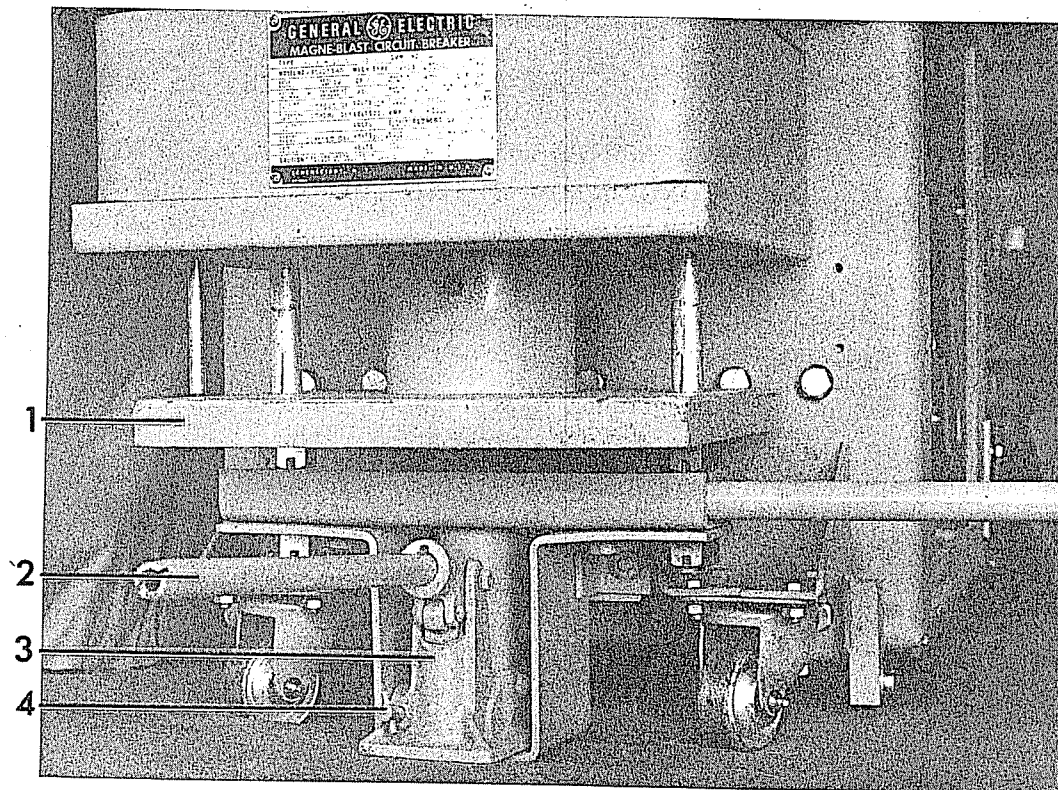

Figure 1 (8020882) Method of Mounting Maintenance Operating Device
2. Operate the breaker manually using the maintenance closing device provided with the breaker. Mount the device as shown in Figure 1 and turn the release valve (4) firmly to the right. To close the breaker, operate the handle (2) with a pumping motion. By turning the release valve (4) to the left, the closing armature will return to its normal position. Electrical operation must not be attempted until the breaker has been operated manually through its complete stroke several times and final installation inspection has been completed.